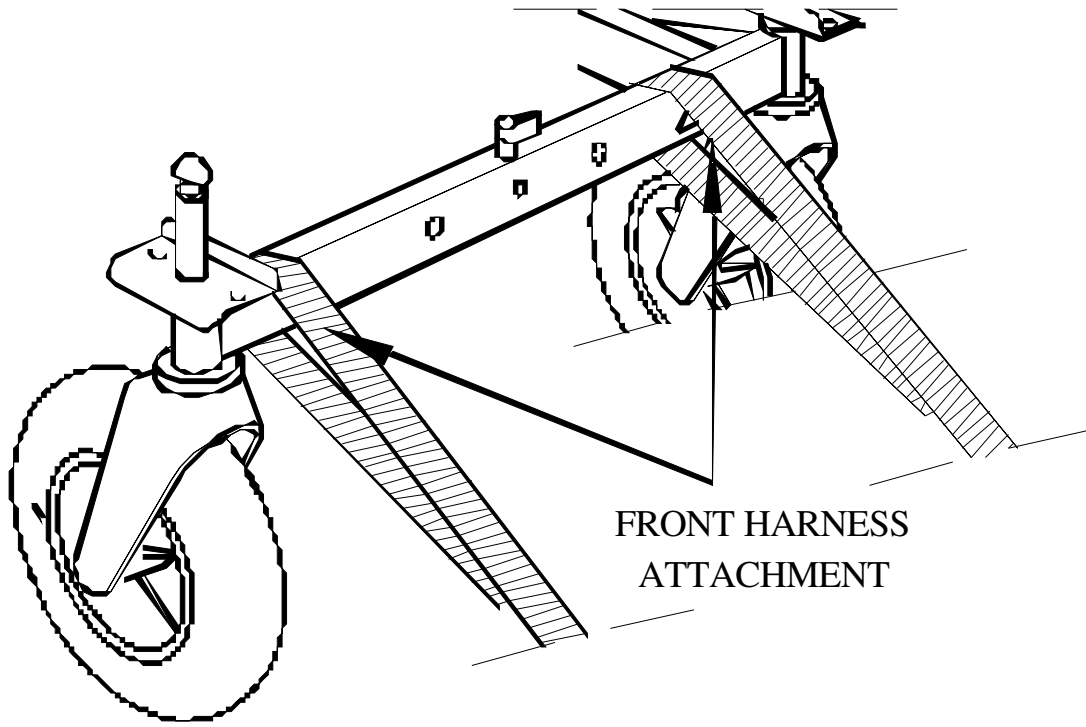
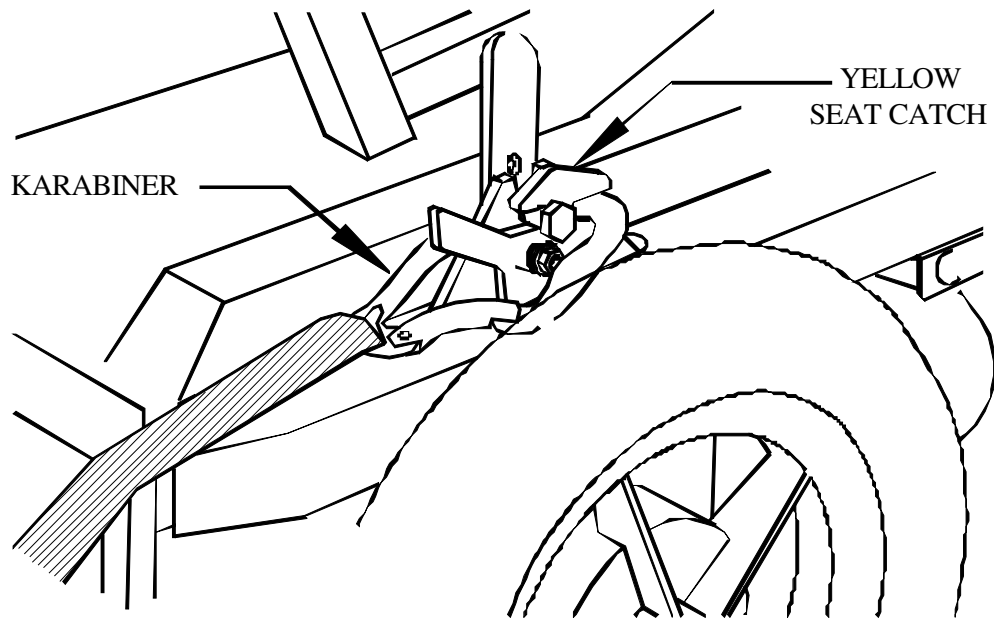

FIG.10.
FIG.11.
- (A) Position the wheelchair over the rails and apply the foot-operated brakes.
- (B) Attach front restraints to the rail so that the buckles 'press' point outwards.
- (C) Heavy Duty Model (see Fig. 10).
- (D) Take the harness tongue over the front frame tube, then down and behind the castor mounting, under the side frame tube and forwards before securing into the buckle. Repeat for the other side.
- (E) Attach the rear karabiners to the Restraint/Seat Mount (indicated by the yellow seat latch), with the karabiner latch opening pointing outwards.
- (F) Ensure that the karabiner is registered in the slot provided. (See Fig. 11)
- (G) Follow manufacturers Restraint Instructions to finish securing the wheelchair.
- (H) Apply the passenger restraint (inertia belt)
- (I) Reverse above procedure to release the wheelchair.